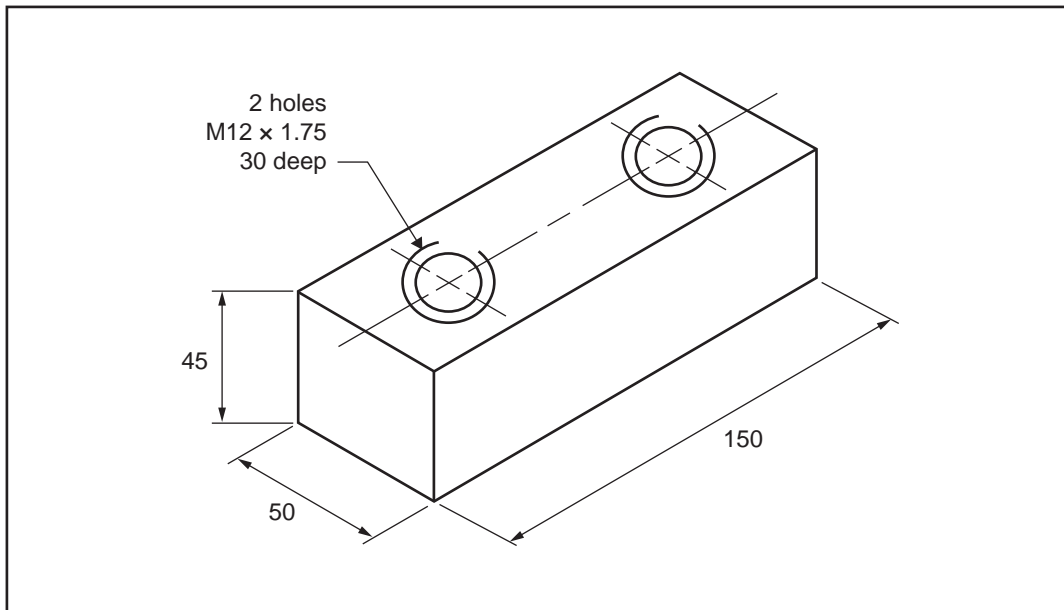

Figure 3
The steel block in Figure 3 requires two blind holes to be drilled and tapped.
- a. Use the tapping chart in Table 1 to determine the correct drill size for the holes shown in Figure 3. 1 mark
- c. Figure 4 shows a set of hand taps that will be used to tap the two blind holes of the steel block shown in Figure 3.